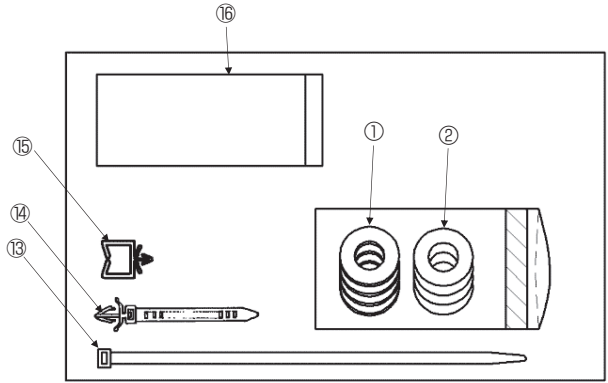

Fig. 7-2
- (2) Attach accessories ⑭ and ⑮. (Fig. 7-2, 7-5 and Table 2)